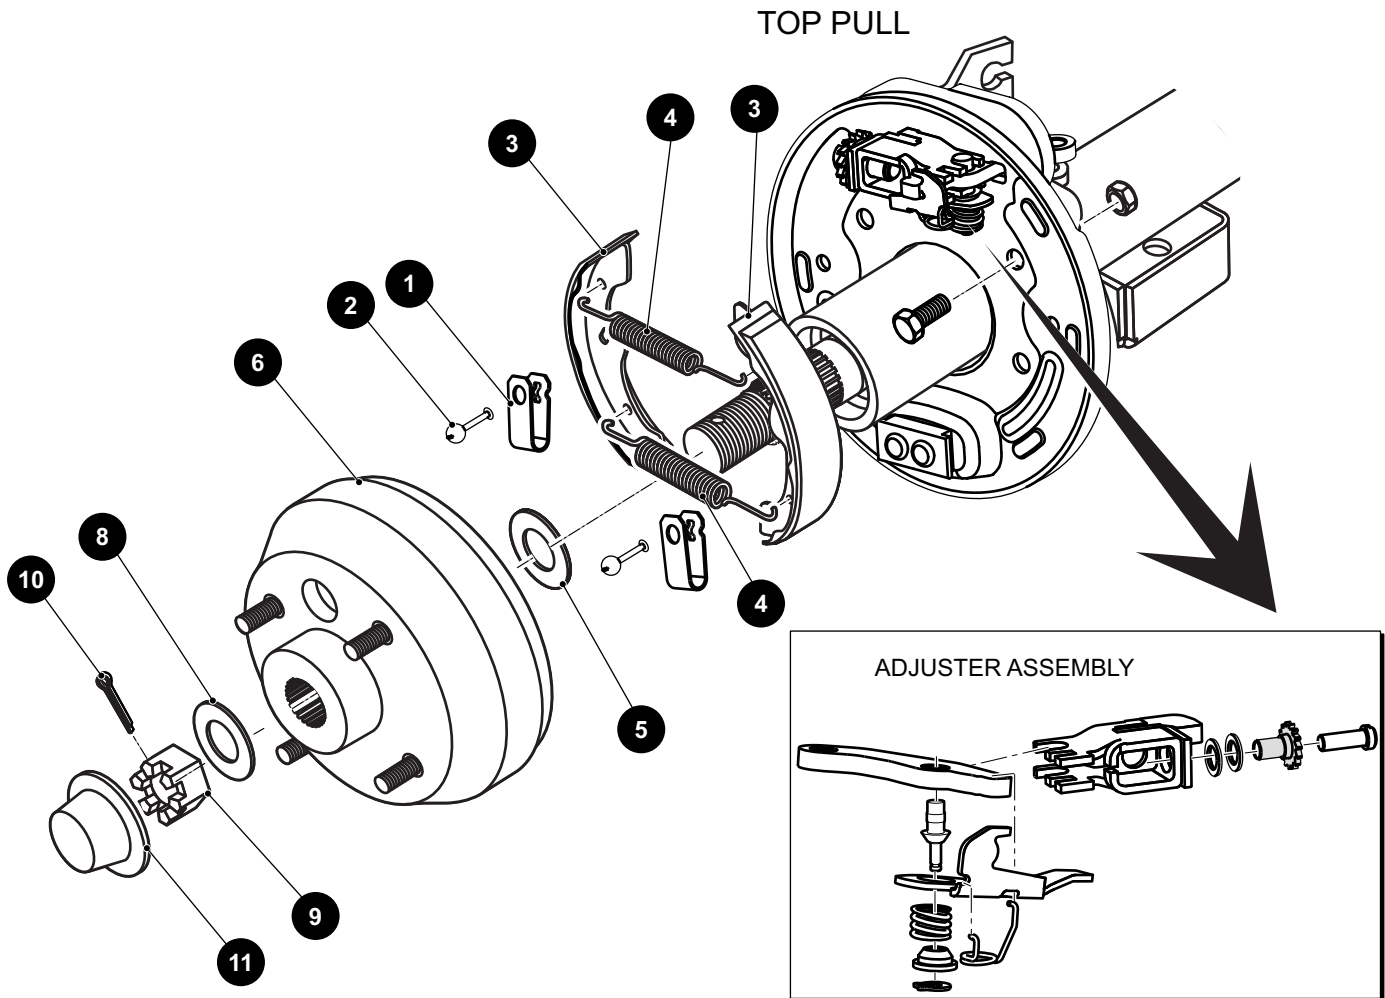

Figure 25 Brake Shoes and Springs
1. Using a pair of pliers, compress the brake shoe retainer springs (1) at the open end of the spring. While holding the tension pin (2) with a second set of pliers, turn the retainer spring 1/4 turn to align the slot in the spring retainer with the flats in the tension pin. Remove the brake shoe retainer springs.
2. Grasp the brake shoes (3) in the center and tilt them outwards and away from the back mounting plate. This will release the tension in the brake springs(4). Remove the brake springs and remove the brake shoes (Figure 25).